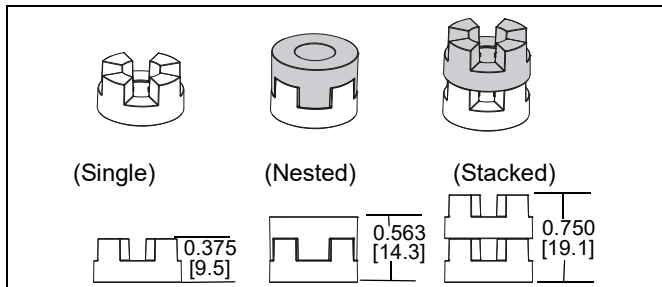

Figure 21
NOTE: The nesting spacers (PI) may be used separately, or put two together in different configurations to create different size spacers. (See Figure 21)